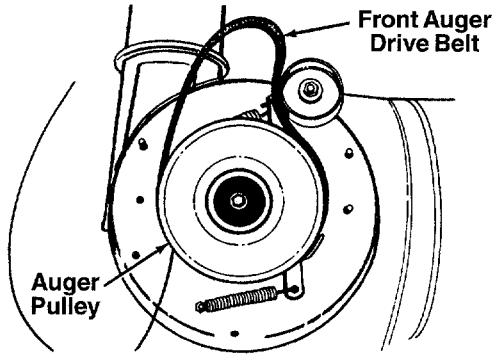

Figure 25
off the pulleys. See Figure 25.
- To remove the front auger drive belt, push the idler pulley to the left and lift front auger drive belt from the front auger pulley. See Figure 25. Replace both auger drive belts by following the preceding instructions.